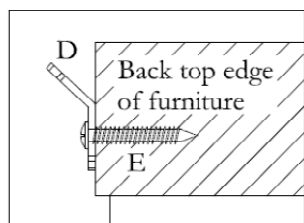

Figure.1
1. **MOUNTING THE FURNITURE-SIDE BRACKET:** Move the furniture item close to the wall to its final position. Use pieces of tape or pencil to transcribe the location on the wall onto the furniture item. Move the furniture item again so you can access its back and use the marks to locate a suitable mounting point for the furniture-side bracket. Make sure that the bracket is secured to firm portion of the furniture frame and as high as possible. Remember: The furniture-side bracket must be positioned near the wall. Using a pencil, and the bracket as a guide, mark "screw mark" on the furniture item through the bracket holes. Attach the short screw to secure the furniture side bracket. (See Figure 1)